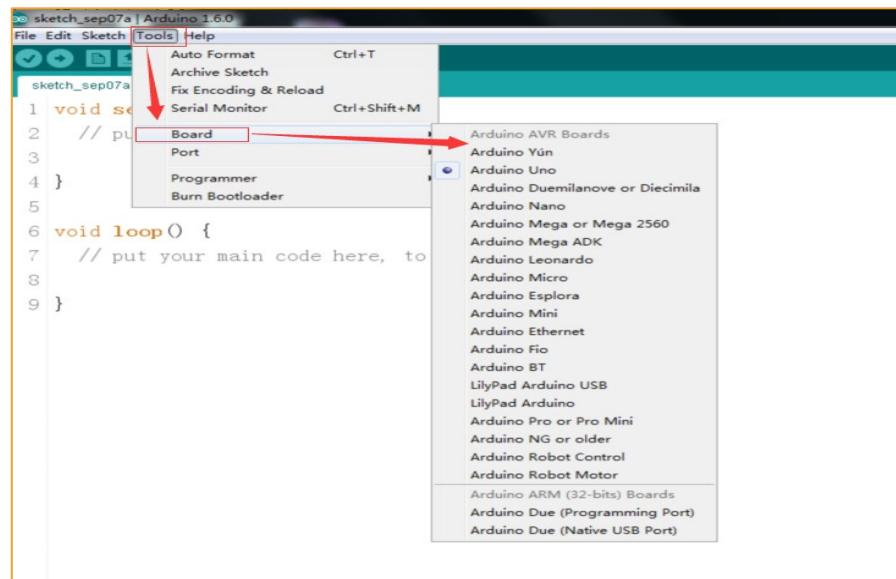
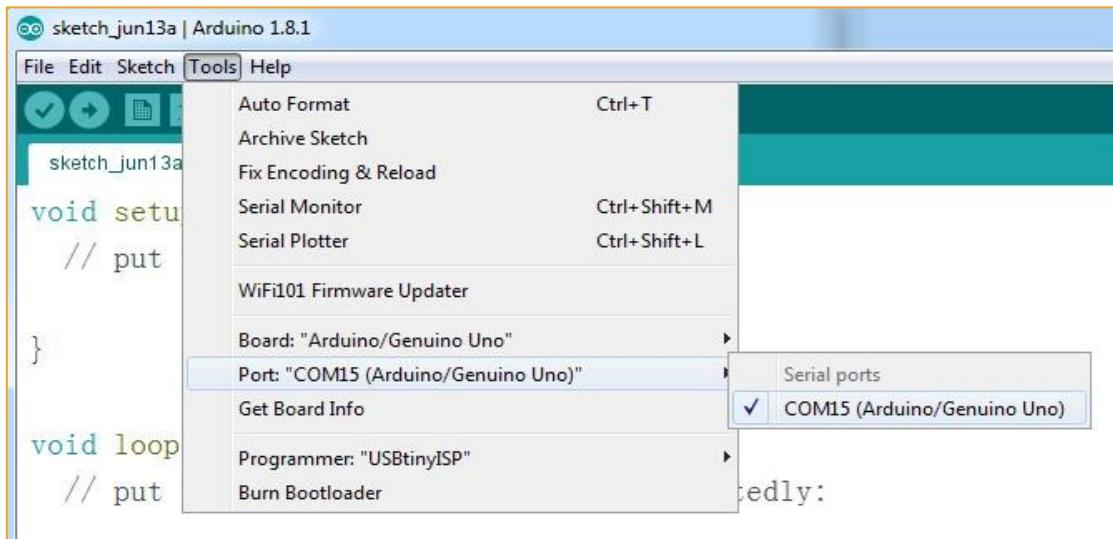

Figure 2-2-14 Tools interface
Figure 2-2-15 USB serial port selection
3、 Click Tools, the interface shown in Figure 2-2-14 will pop up. Here we can see two options: Board and Port. In the board option, we can see the commonly used Arduino development board model, we only need to choose according to their own development board. In the Port option, the USB serial port is mainly selected, as shown in Figure 2-2-15. If you are not sure, you can check it in the "Device Manager" and select the corresponding COM port.